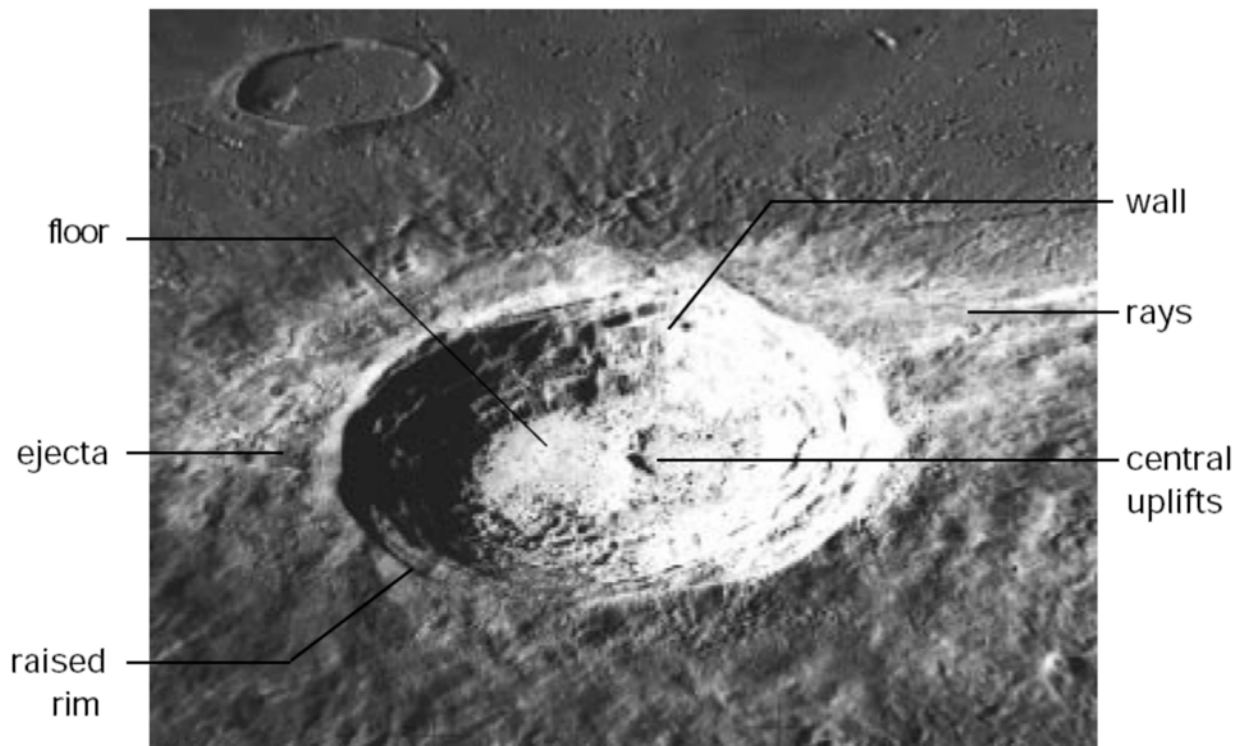

Figure 1 Parts of a Crater
This TP consists of making a series of craters of various sizes. Point out to the cadets the features of the craters they create as shown in Figure 1 (Lunar crater Aristarchus, 42 km in diameter, located west of Mare Imbrium).
4. Have the cadets measure the resulting craters and then select an effective impactor for the following exercise (an effective impactor will produce maximum rays, crater walls, a raised rim, and ejecta as shown in Figure 1, but it may not be possible to create a central uplift).